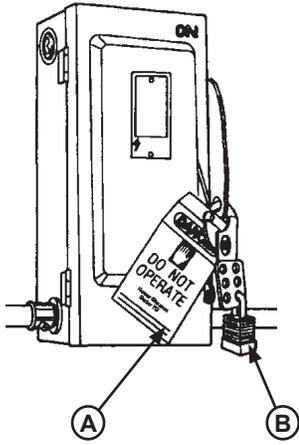

Figure 9
When working with electrical or electronic controls, make sure that the power source has been tagged (A) and locked out (B) according to OSHA regulations and approved local electrical codes (see Figure 9).